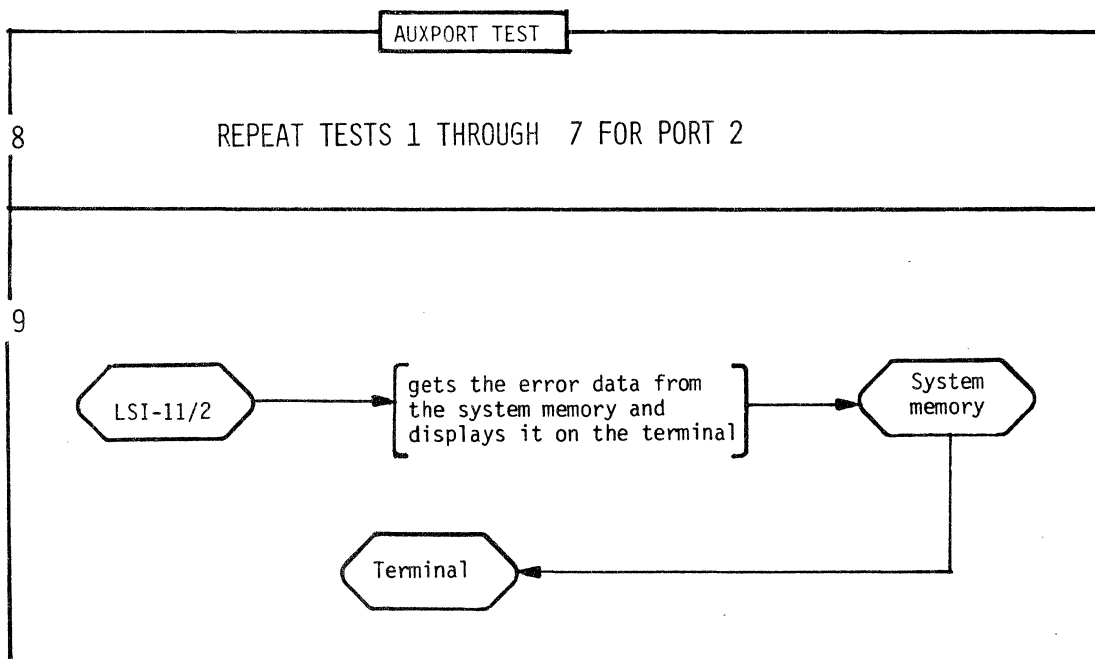

Fig. 4-17. AUXPORT test.
8. REPEAT 1 THROUGH 7 (Fig. 4-17). This portion of the AUXPORT test repeats steps 1 through 7 for AUXILIARY port. Otherwise, this part is identical to the PRINTER port test.
9. RETRIEVE ERRORS (Fig. 4-17). If the AUXPORT TEST is executed alone, part 9 retrieves the error information from the system memory and displays it on the ODT terminal. If, however, the AUXPORT test was executed within the ALL series, the error information is displayed at the end of the series.